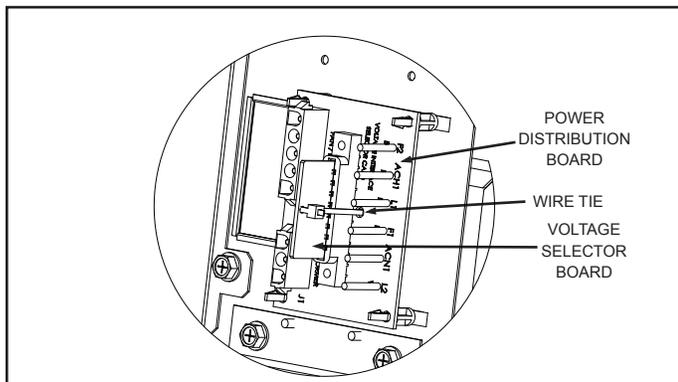

Figure 26. Power Distribution Board With Voltage Selector Board Installed for 240 VAC
- Cut the plastic wire tie fastening the voltage selector board in place and discard it. Be careful not to abrade or damage any wiring or other components. Unplug the voltage selector board from the receptacle. See “Figure 26. Power Distribution Board With Voltage Selector Board Installed for 240 VAC” on page 24.